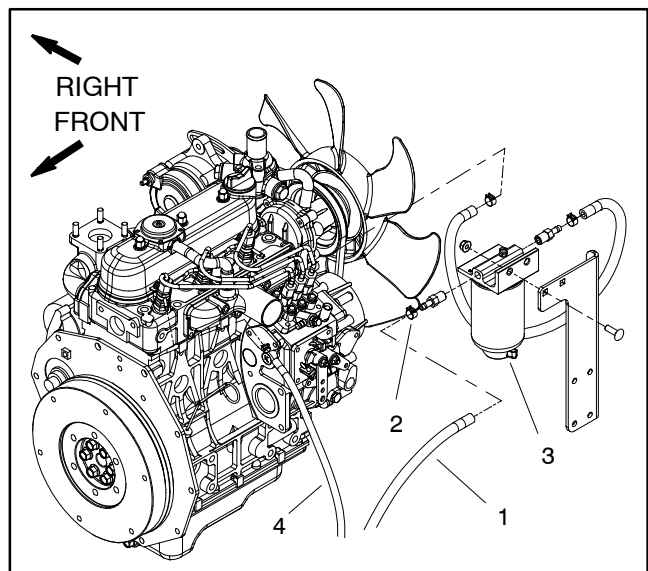

Figure 82
3. Disconnect fuel hose (pump discharge) from the fuel/water separator inlet fitting (Fig. 82).